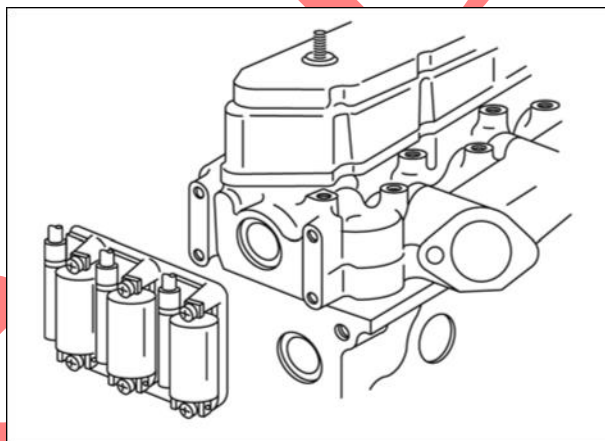

Figure 4
6. Remove the ignition coil bracket (Figure 4) and the ignition coils.